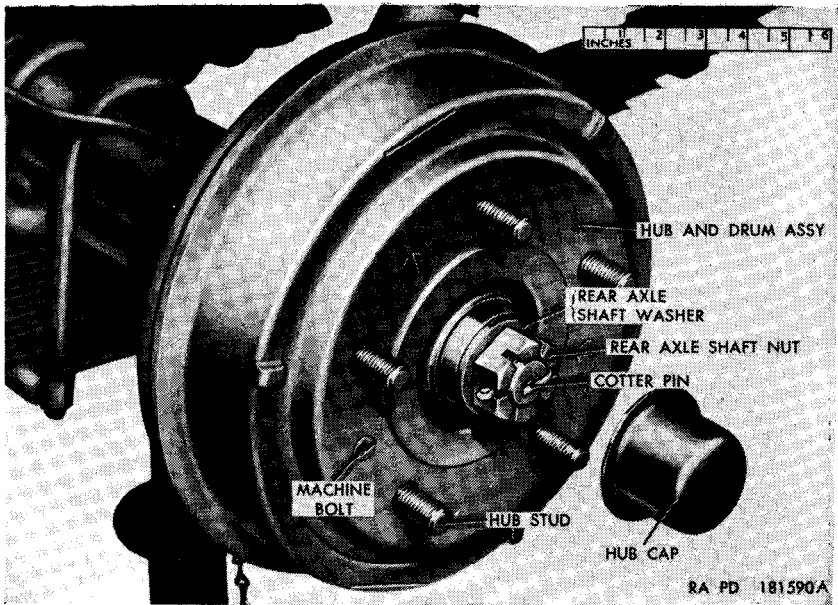
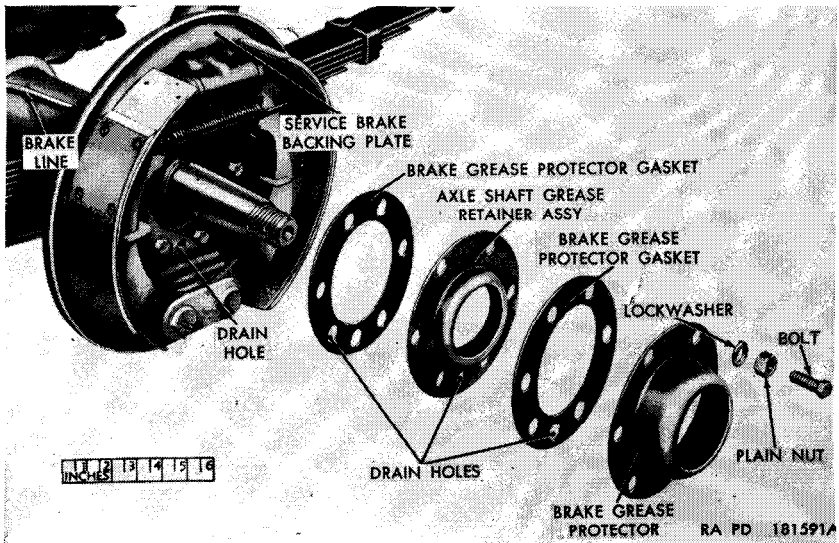

Figure 94. Rear axle assembly—hub cap removed.
Figure 95. Rear axle assembly—partially exploded view.
- (1) The removal procedure is the same for the left or right rear axle shafts.
- (2) Place a jack under the rear axle and raise the vehicle until the wheels are clear of the ground. Place safety stands under both ends of the axle outside the spring U-bolts or block axle with solid blocking.
- (3) Remove wheel (par. 256).
- (4) Pry off hub cap, and remove cotter pin, axle shaft nut, and axle shaft washer (fig. 94).
- (5) Install a wheel puller on three hub studs of the hub and drum assembly (fig. 94) and remove hub and drum assembly and the key.
- (6) Remove the six plain nuts, lockwashers (fig. 95), and bolts securing the brake grease protector, brake grease
- (7) Unscrew the nut securing the brake line (fig. 95) to service brake backing plate and pull line free. Pull the backing plate with attached brake parts off the axle.
- (5) Position the service brake backing plate and attached brake parts on the axle housing flange and align the drain hole with the drain hole (fig. 95) in the flange.
- (6) Position one brake grease protector gasket, axle shaft grease retainer assembly, second brake grease protector gasket, and the brake grease protector (fig. 95) on the two $\frac{3}{8}$ x $1\frac{1}{4}$ bolts protruding through the backing plate, aligning the drain holes in the gaskets and protector and the drain passage in the retainer with the drain hole in the backing plate.
- (7) Install the four remaining $\frac{3}{8}$ x $1\frac{1}{4}$ bolts through the axle housing flange, and install six $\frac{3}{8}$ -inch lockwashers and $\frac{3}{8}$ -inch plain nuts (fig. 95).
- (8) Position the hub and drum assembly (fig. 94) on the axle shaft and align the keyway in the hub with the keyway in the axle shaft. Insert the key into the keyways and tap key and hub and drum assembly into position on the axle shaft.
- (9) Install the axle shaft washer and axle shaft nut (fig. 94) on the axle shaft. Tighten the nut and secure in position with a $\frac{1}{8}$ x $1\frac{1}{2}$ cotter pin. Position the hub cap (fig. 94) over the axle shaft and tap cap into position on the hub.
- (10) Position the brake line (fig. 95) in its opening in the service brake backing plate and tighten the nut securing the line to the plate.
- (11) Install the wheel (par. 256).
- (12) Remove the safety stands or blocking and lower the wheels to the ground.
- (13) Bleed the brake system (par. 246).
a. Adjustment. Place a jack under the axle and raise vehicle until wheels are clear of ground. Test axle shaft end play by grasping wheel and moving in and out. If the bearings are correctly adjusted, end play will be just perceptible. If end play is not correct proceed as shown in (1) through (13) below.
- (1) Unscrew the five nuts and remove the wheel.
- (2) Pry off the hub cap (fig. 94).
- (3) Remove the cotter pin from the axle shaft nut, unscrew the nut, and remove the axle shaft washer (fig. 94).
- (4) Install a puller on three of the hub studs and pull the hub and drum assembly from the axle. Remove the key.
- (5) Unscrew the nut on the end of the brake line from the wheel cylinder. Remove six nuts and lockwashers from the bolts and remove brake grease protector, brake grease protector gasket, axle shaft grease retainer assembly, brake grease protector gasket, and service brake backing plate (fig. 95).
- (8) Install the service brake backing plate, brake grease protector gasket, axle shaft grease retainer assembly, brake grease protector gasket, and brake grease protector (fig. 95) in the order named and with drain holes at the bottom and install the six lockwashers and nuts on the bolts.
- (9) Install the key in the axle shaft, and put the hub and drum assembly onto the shaft. Install the axle shaft washer, screw on the axle shaft nut, and install the cotter pin (fig. 94).
- (10) Push the hub cap into place.
- (11) Position the wheel on the hub studs and secure with five nuts.
- (12) Position the brake line in the wheel cylinder and tighten the nut.
spring U-bolts or block axle with solid blocking. Remove the wheel (par. 256). Pry off the hub cap and remove the cotter pin, axle shaft nut, and axle shaft washer (fig. 94). Install a wheel puller on three hub studs and remove the hub and drum assembly. Remove the key. Remove the three bolts (fig. 94) securing the brake drum to the hub and pull the drum off the hub. If it is necessary to replace any hub studs (fig. 94), drive them out of the hub.
Position the brake drum on the hub, aligning the mounting holes in the drum with those in the hub. Secure the drum to the hub with three $\frac{1}{4}$ x $\frac{5}{8}$ flat-head bolts (fig. 94). Position the hub and drum assembly on the axle shaft, aligning the keyway in the hub with the keyway in the axle shaft. Insert the key into the keyways and tap the hub and drum assembly and key into position. Install the axle shaft washer and axle shaft nut. Tighten nut and secure in position with a $\frac{1}{8}$ x $1\frac{1}{2}$ cotter pin (fig. 94). Position hub cap (fig. 94) over axle shaft and tap onto hub. Install the wheel (par. 256). Remove safety stands or blocking and lower vehicle to ground.
a. Removal. Remove wheel (par. 256). Pry off the hub cap and remove the cotter pin, axle shaft nut, and axle shaft washer (fig. 94). Remove the three bolts (fig. 94) securing the brake drum to the hub and pull the drum off the hub.